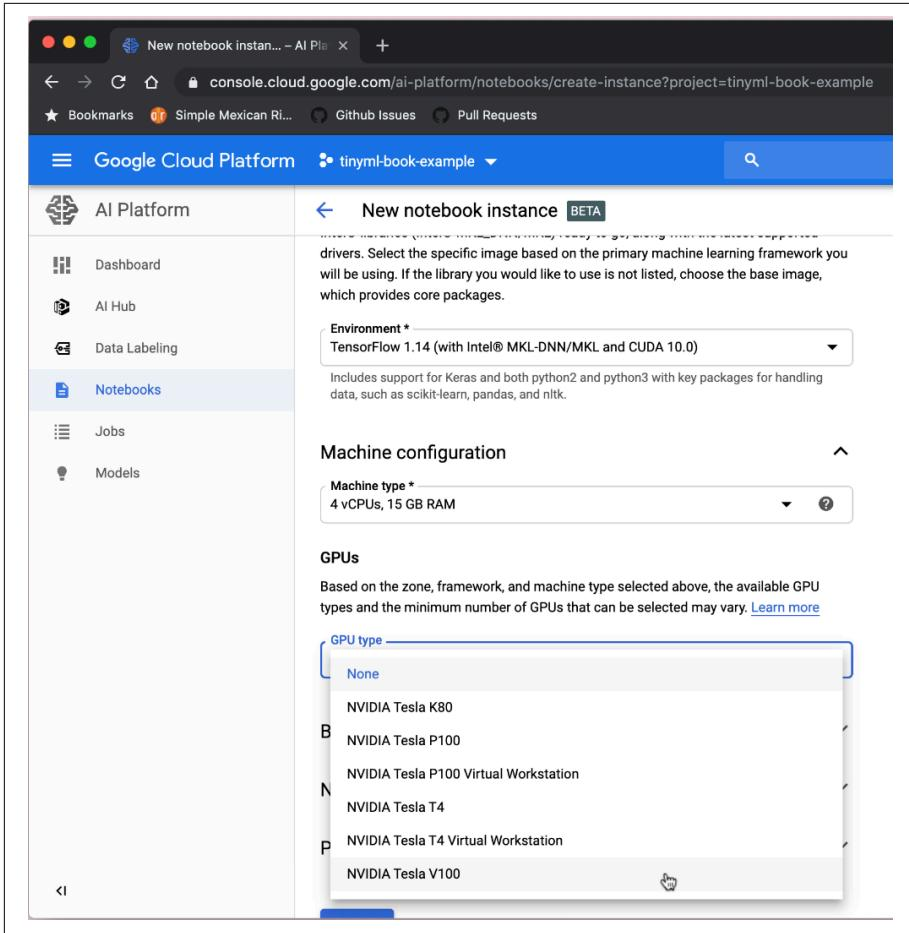

Figure 10-6. The GPU selection interface
9. Picking the right GPU will make the biggest difference in your training speed. It can be tricky because not all zones offer the same kind of hardware. In our case, we're using "us-west1 (Oregon)" as the region and "us-west-1b" as the zone because we know that they currently offer high-end GPUs. You can get the detailed pricing information using Google Cloud Platform's pricing calculator, but for this example we're choosing one NVIDIA Tesla V100 GPU, as illustrated in Figure 10-6. This costs \$1,300 a month to run but allows us to train the person-detector model in around a day, so the model training cost works out to about \$45.